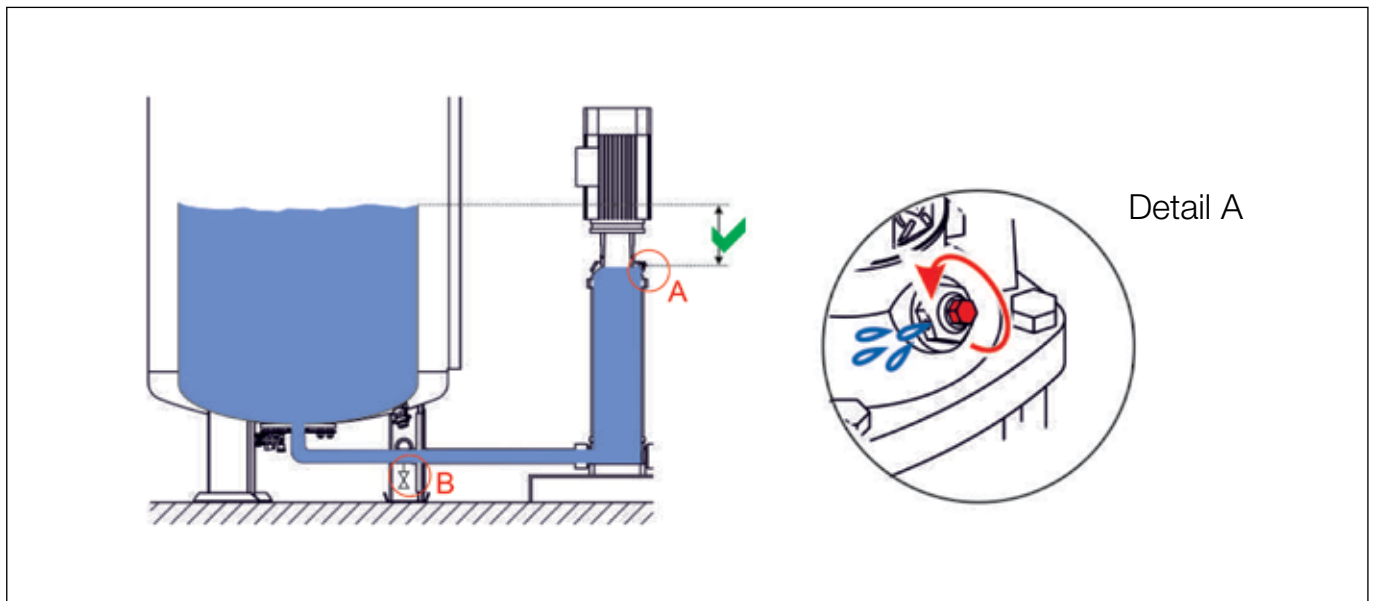

Figure 15: Venting valve on the pressure maintenance pump
- For devices without a built-in EMCF backfeed module, the vessel must be filled (e.g. via the KFE tap in the overflow line on the connection of the EG-M - see Figure 15, detail B) until a continuous jet of the system medium emerges from the pump vent valve (detail A). If necessary, reduce the factory-set upper working pressure at the overflow valve beforehand if the pressure in the system would otherwise rise too high (higher than the desired upper working pressure).